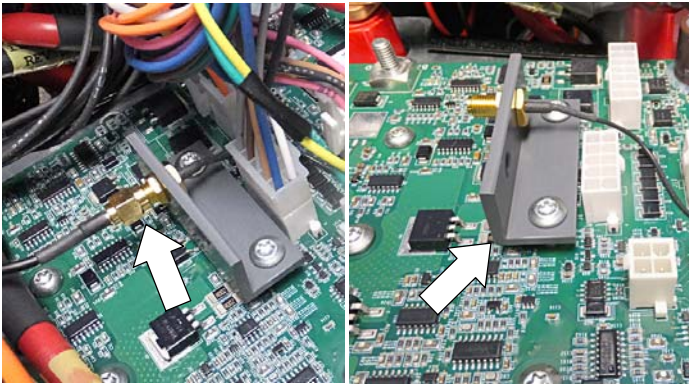

Fig. 5
7. Disconnect the antenna wire and remove the antenna bracket with two spacers from defective board (Figure 5). Save bracket and spacers.